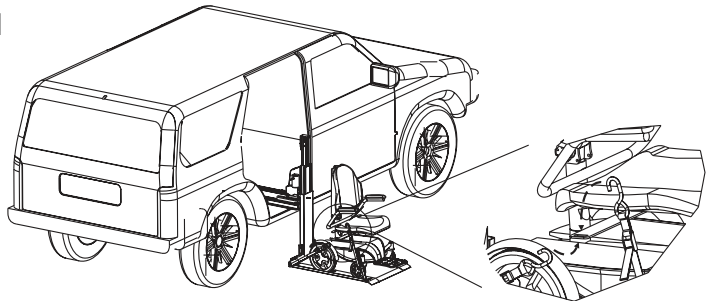

Figure 4-2
3. **Secure the Chair.** Each corner of the AL690 platform has a restraint attached, with a hook on the end. Place each hook in either the anchor plate slot or in each U-bolt. [Figure 4-2]